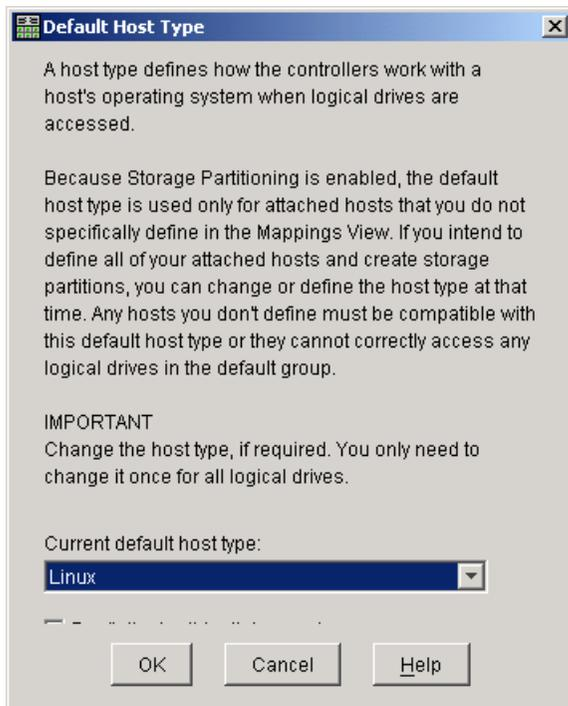

Figure A-4 Default Host Type window
4. Since our server (host) is running Linux, we must define a host type. We set this to be Linux to match our host as shown in Figure A-4: